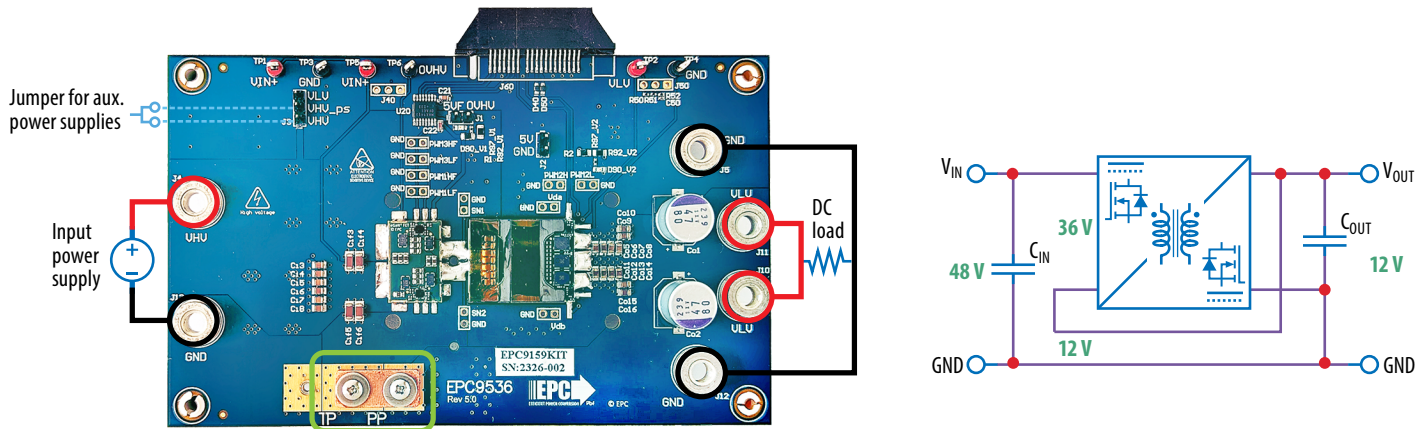

Figure 6: Left: Power connections and configuration for operation in Partial Power Mode. Right: Block diagram of the converter in Partial Power Mode.
Note the position of the copper bar in the lower left of the board shown in figure 6. It connects the two exposed copper pads above the “PP” label. The right exposed pad is the VLV net (Output voltage) and the left pad, the 0VHV net. This configuration causes the 0VHV node to float above GND, hence the need for a floating 5V auxiliary supply (5VF), and a digital isolator to level shift the PWM signals coming from the controller card, which is referenced to GND.
The EPC9159KIT demonstration kit was designed to easily evaluate the performance of EPC2619 and EPC2067 in a high efficiency high-power-density LLC converter. Refer to figures 6 or 7, 8 & 9 for proper power connections and measurement setup, and follow the procedure below to operate the board:
1. Make sure the Auxiliary Power Supply Selector is installed between VHV and VHV_ps (see figures 6 or 7 for its location). In this position, the input for the auxiliary power supplies is connected to VHV.
3. Make sure the copper bar for the mode selector is installed properly. The default configuration is Partial Power Mode and is shown in figure 6.
4. With power off, connect a power supply as shown in figure 6 or 7. A shunt resistor can be inserted in series with the positive supply to measure the DC input current to the board.
5. With power off, connect a suitable load as shown in figure 6 or 7.